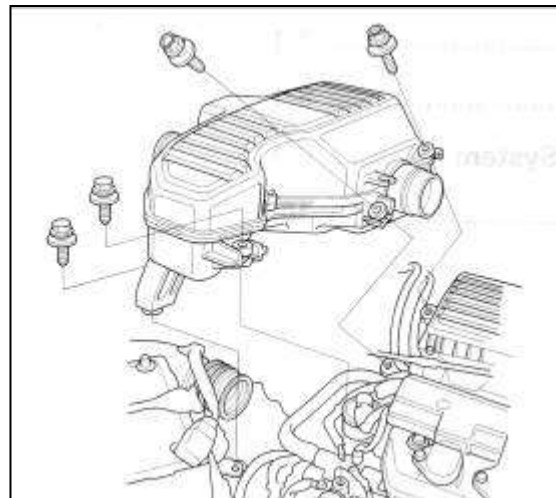

Fig. 4
- e. Remove the four bolts securing the intake resonator and pull the intake resonator out of the car. **(Fig. 4)**